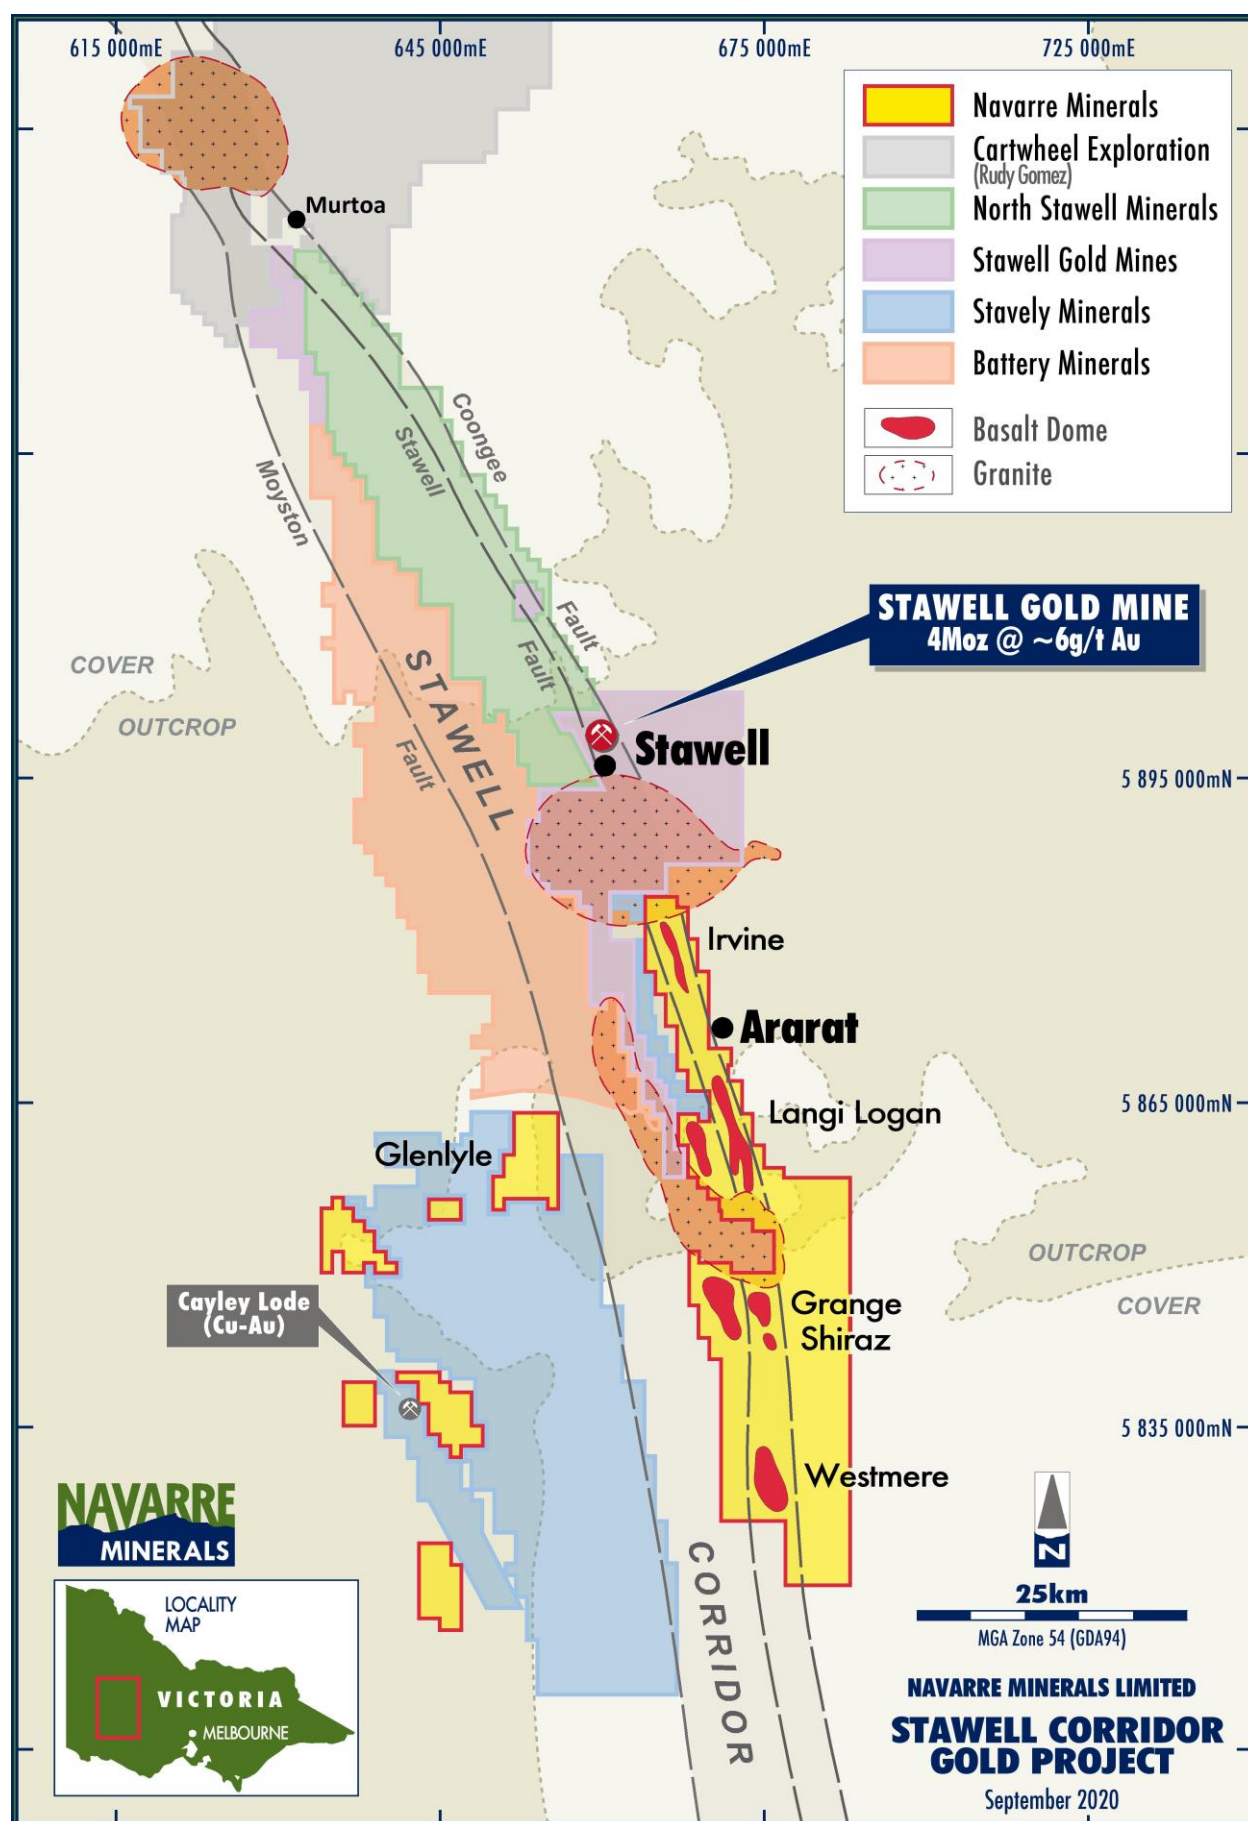

Figure 1: Location of Navarre's Stawell Corridor Gold Project.
Navarre Minerals Limited (**Navarre or the Company; ASX:NML**) reports significant assay results for its recently completed reconnaissance air-core (AC) drilling program at its fully-owned Langi Logan Gold Project in Victoria, Australia (Figure 1).
The Langi Logan Project is part of Navarre's 70 kilometre long Stawell Corridor Project, in the historically productive central Victorian goldfields (Figures 1 & 4).
The Langi Logan basalt dome is the next major prospect for Magdala-style mineralisation south of Navarre's Irvine basalt dome, also part of the Stawell Corridor Project (Figures 1 & 2).
The Company is searching for large gold deposits in an extension of a corridor of rocks that host the five million ounce Stawell and one million ounce Ararat goldfields – “The Stawell Gold Corridor” (Figure 1). A key feature of major gold deposits along the Stawell Gold Corridor is that they are hosted in meta-sediments on the margins of Cambrian basalt domes. The five million ounce Magdala gold deposit at Stawell is the best example of this style of mineralisation.
The Langi Logan basalt dome is the next major prospect for Magdala-style mineralisation south of the Irvine basalt dome within the Stawell Corridor Gold Project (Figure 1). It consists of the Langi Logan North, Langi Logan Central and the Langi Logan South Cambrian basalt domes with a combined 14 kilometre strike length and occurs in an area of significant historical deep lead production (133,000 ounces of gold recorded). Approximately 70 per cent of the project area is covered by post-mineralisation Newer Volcanics ranging up to 30 metres in thickness.